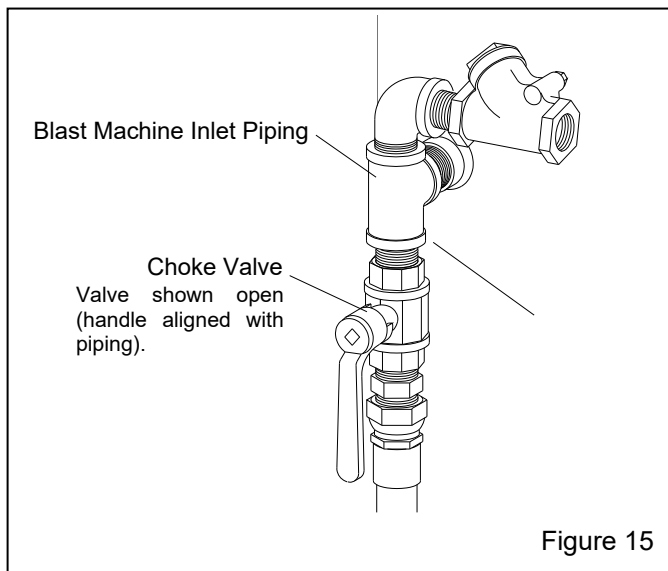

Figure 15
4.5 Operation and Function of the Choke Valve Figure 15
4.5.1 Always fully open the choke valve while blasting; open is when the handle is vertical and aligned with the piping, as shown in Figure 15.